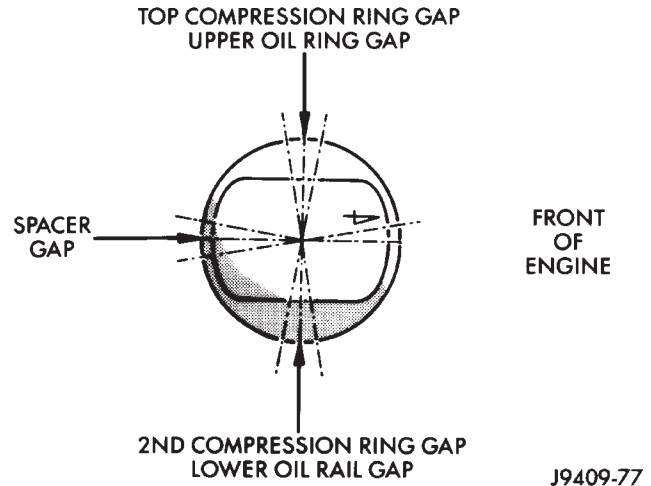

Fig. 10 Proper Ring Installation
(3) Arrange ring gaps 180° apart as shown in (Fig. 10).